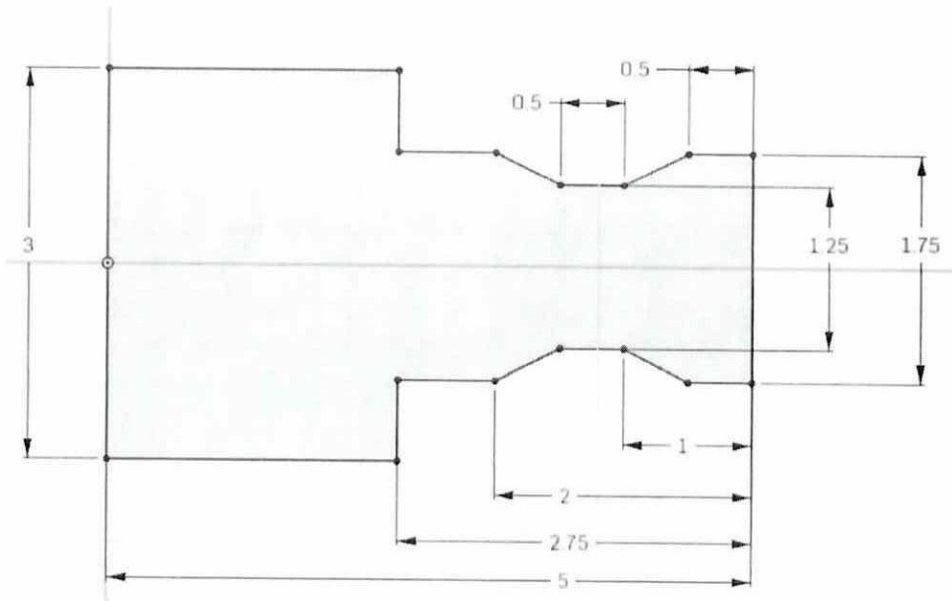

Figure Q2(b)
**PART A : ANSWERS FOUR (4) QUESTIONS ONLY**
- Q1** (a) List **FIVE (5)** characteristics of successful product development. (5 marks)
- (b) Explain the lathe process to turn a cylindrical workpiece of length 10 mm and diameter 3.2 mm into a finished product as **Figure Q2(b)**. (7 marks)
- (c) Explain the **TWO (2)** categories of casting processes. (4 marks)